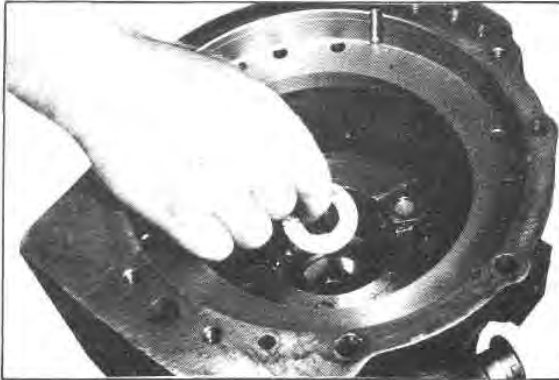

Fig. G72 — Installing the Forward Clutch Hub Thrust Washer
36. With the forward and reverse case and parts assembled in steps (1) to (10) on a suitable support as described in step (10), place the forward clutch hub thrust washer on the front thrust face of the output shaft (Figure G72). Coat the thrust washer with petroleum jelly to facilitate positioning.